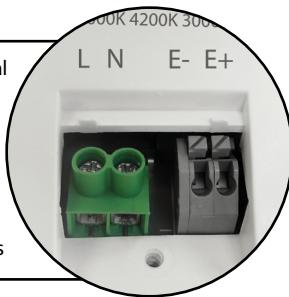

Fig 1
01. Locate suitable position without obstructions (allow minimum 75mm around the hole for the spring clips) and minimum ceiling void height of 150mm. (see Fig.1 opposite).